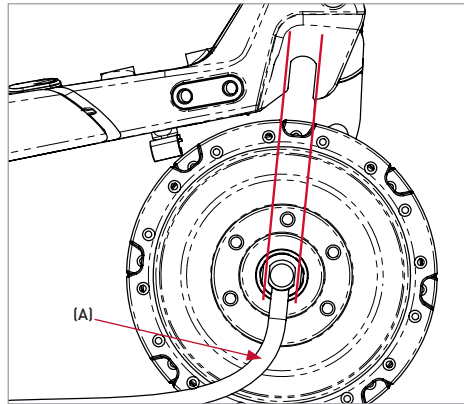

Figure 4
1. Install the rear wheel hub axle in the frame dropouts so the hub motor cable (A) is facing down and forward (Figure 4).